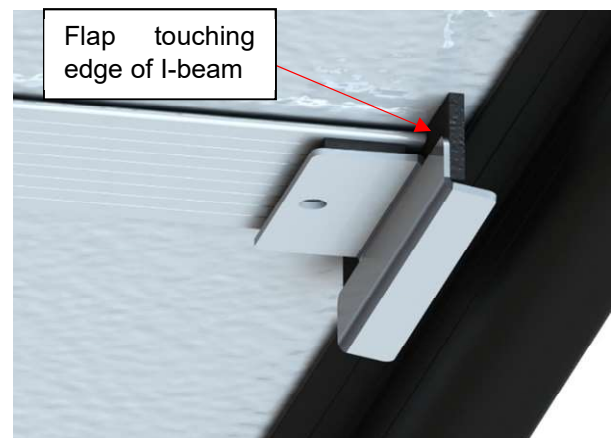

Figure 115
- 4) Stick the wiper bracket on the middle of the I-beam by holding it in place with pressure for at least 60 seconds. This ensures a proper bond to the I-beam. **Make sure you place the wiper bracket flap at the edge of the I-beam directly into the gap between the I-beam and the C-channel** (Figure 115)